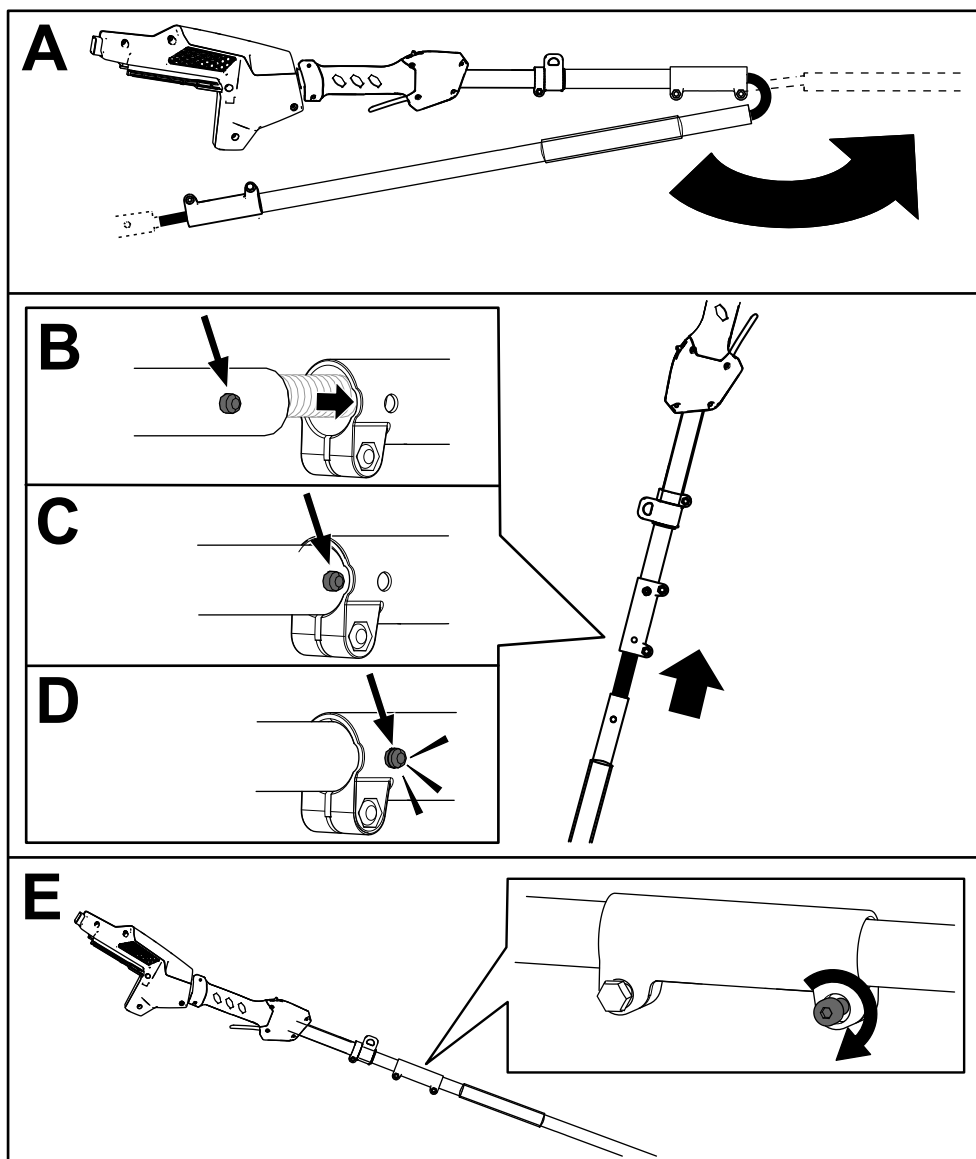

Figure 5
3. Use the provided wrench to secure these 2 sections of the pole together (E of Figure 5).